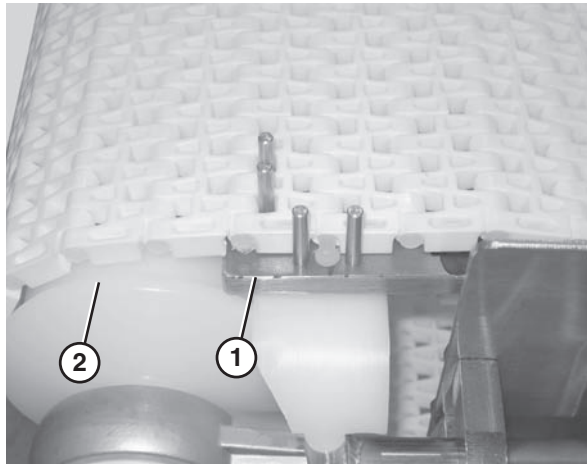

Figure 49
1. Secure the retaining head side of the belt. Use the belt removal tool (Figure 49, item 1) for 1" pitch belts. For all other belts, position the section of belt so that it is braced by the flanged puck (Figure 49, item 2).